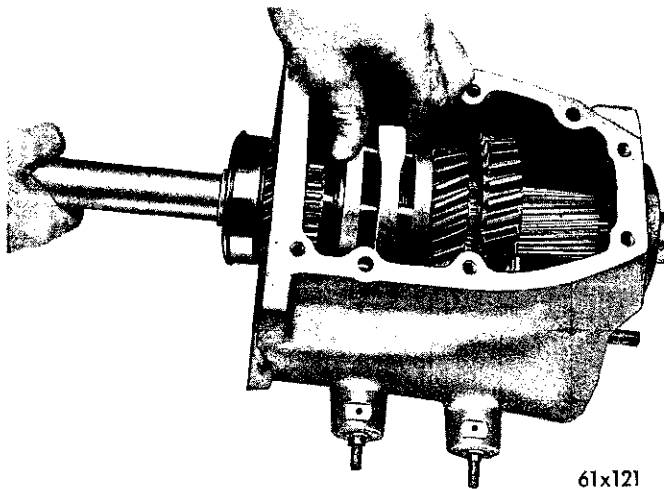

Fig. 4—Removing the Drive Pinion Assembly
(1) Remove the bolts that attach the main drive pinion bearing retainer, then slide the retainer off the pinion. Discard the gasket and drive the seal out of the retainer, using a suitable drift.
(2) When removing the drive pinion and the bearing assembly from the transmission case, slide the synchronizer front inner stop ring from the short splines on the pinion as the assembly is being removed from the case, as shown in Figure 4.
(3) Remove the snap ring which locks the main drive pinion bearing on the pinion shaft, using a